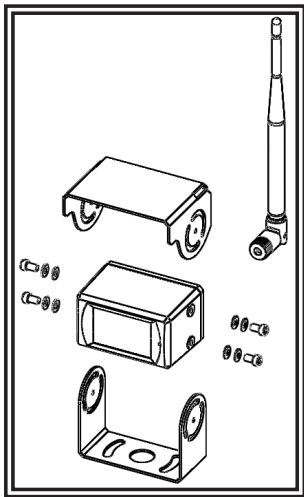

Figure 6
3. Install the camera and sun-visor on the U-bracket as shown in Figure 6.